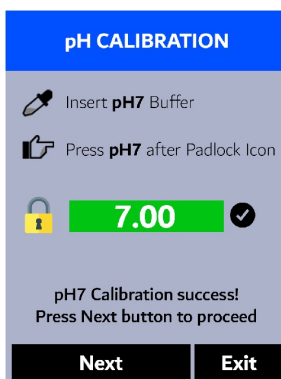
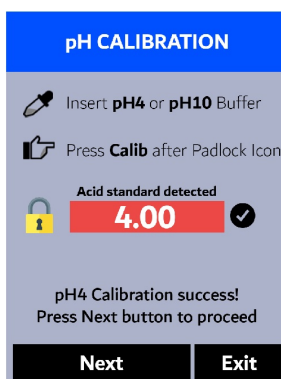
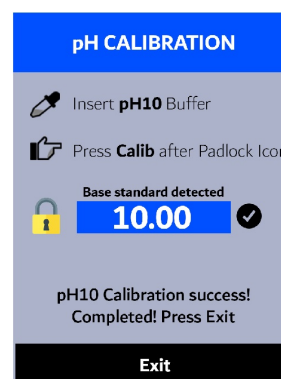

Figure 46.
Figure 47.
Figure 48.
11. If the calibration succeeds, a checkmark (✔) and a "pH7 Calibration success!" message will appear (Figure 46). Otherwise, a warning message is displayed.
- (b) Press **Exit** (OK) to end the calibration process at a one-point calibration.
17. If the calibration succeeds, a checkmark (✔) and a "pH4 Calibration success!" or a "pH10 Calibration success!" message will appear (Figure 47). Otherwise, a warning message is displayed.
- (b) Press **Exit** (OK) to end the calibration process at a two-point calibration.
23. If the calibration succeeds, a checkmark (✔), a "pH4 Calibration success!" or a "pH10 Calibration success!" message, and a "Completed!" message will appear (Figure 48). Otherwise, a warning message is displayed.